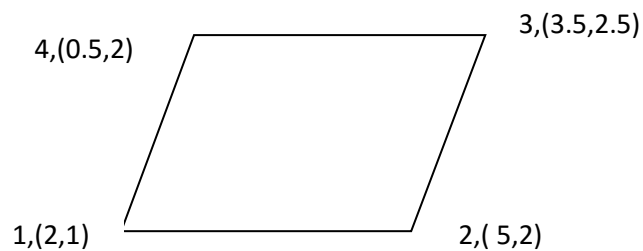

Figure 2.
- 7 a) Obtain explicit expressions for isoparametric mapping for the element shown in Figure 2. Is the mapping fine? (12)